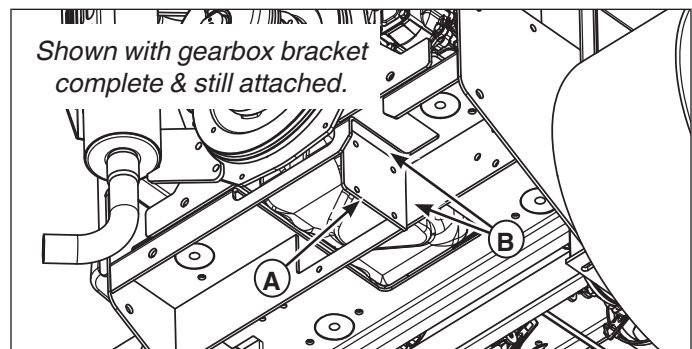

Figure 7. Inspecting the Frame
1. Inspect the frame where the broken gearbox bracket was welded (**A**, **Figure 7**).